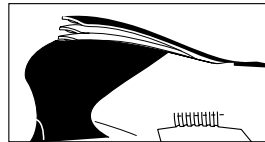

Figure 4
2. Intermediate speeds between Zero (0)/min (RPM) and the set Maximum Speed can be used with intermediate Lever positions. - see figure 4